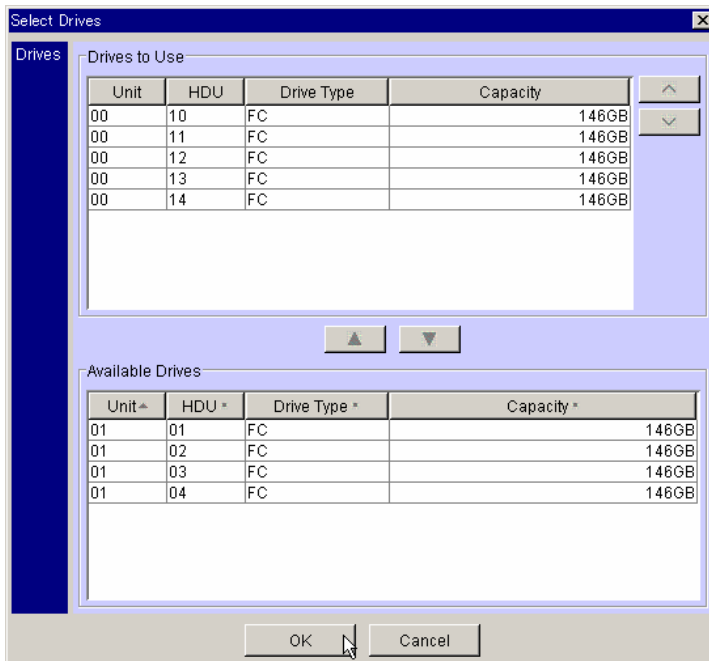

Figure 6.6 Select Drives Dialog Box (after selecting drive)
- In **Available Drives** list on the bottom of the window, select the **HDU** number, hold the Shift key down, and then click the up arrow button () to move that drive into the **Drives to Use** list (see Figure 6.6).